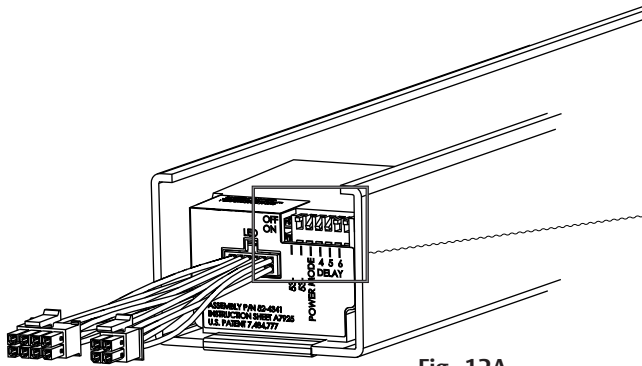

Fig. 12A
1. Locate controller at end of rail (Fig. 12A).